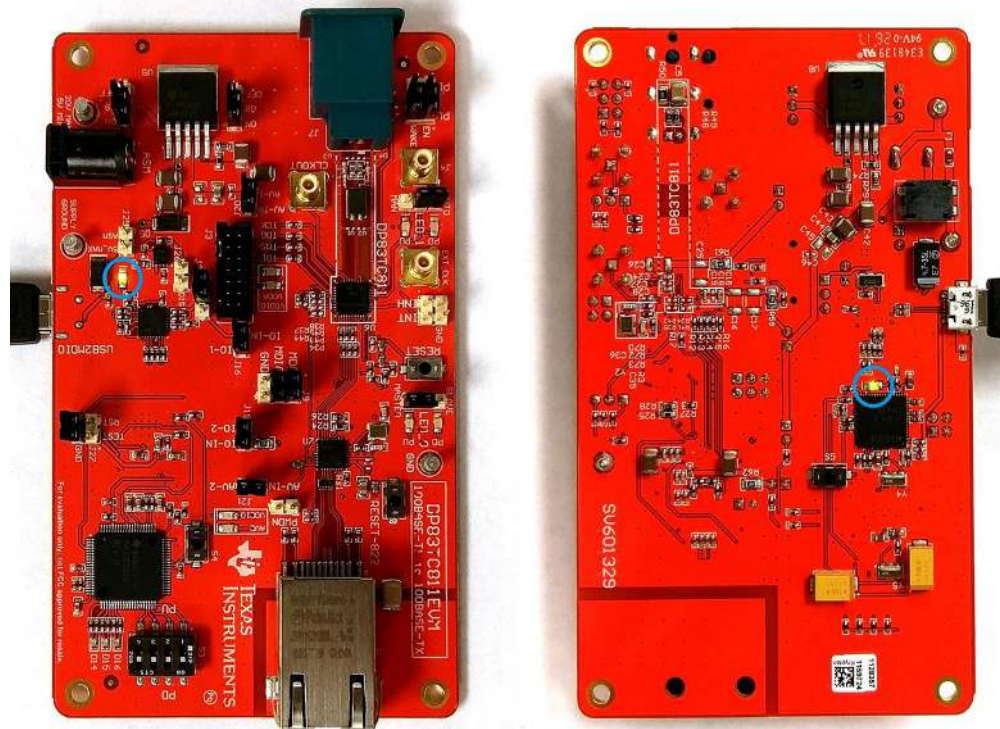

Figure 9. LED on Both Top and Bottom of DP83TC811EVM
- One green LED on the top of the board, as in Figure 9
- One green LED on the bottom of the board, as in Figure 9